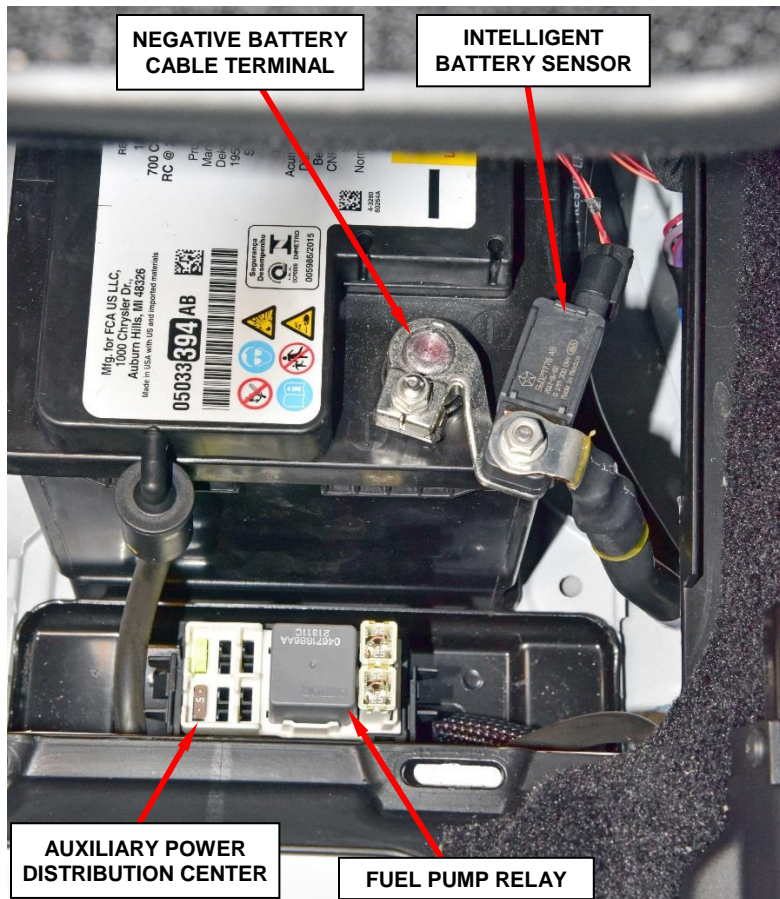

Figure 6 – Fuel Pump Relay and Negative Battery Terminal
5. Remove the fuel pump relay from the auxiliary power distribution center (Figure 6).
10. Install the fuel pump relay in the auxiliary power distribution center (Figure 6).
23. Connect the negative battery cable terminal to the battery then tighten the clamp pinch-bolt hex nut to 5.5 N·m (50 In. Lbs.). **For vehicles equipped with a supplemental battery**, also connect the negative battery cable terminal to the supplemental battery (Figure 6).